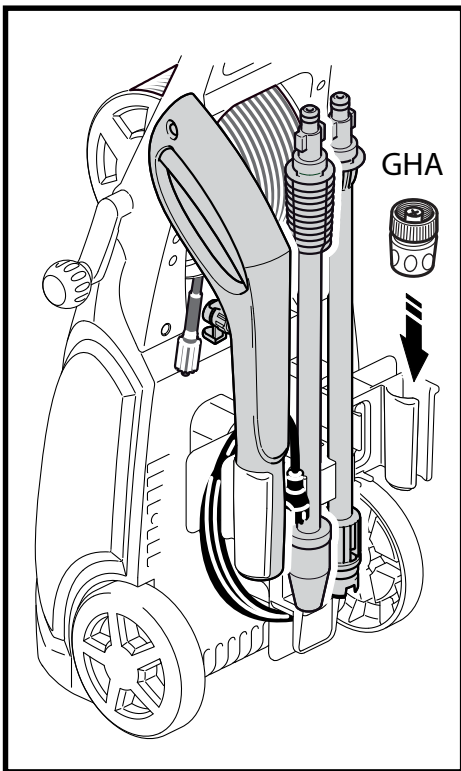

Fig. 22
- The GHA should be stored in the accessory holder when your unit is not in use to prevent loss or damage (Fig. 22).
- Remove lance or detergent bottle from the gun and place in the accessory holder. Place the gun in the accessory holder in one of the slots. Lances are pressed into and stored in the half circle notches (Fig. 22). Make sure to discard any remaining detergent from the bottle. Flush the bottle and nozzle head with fresh water to prevent clogging.